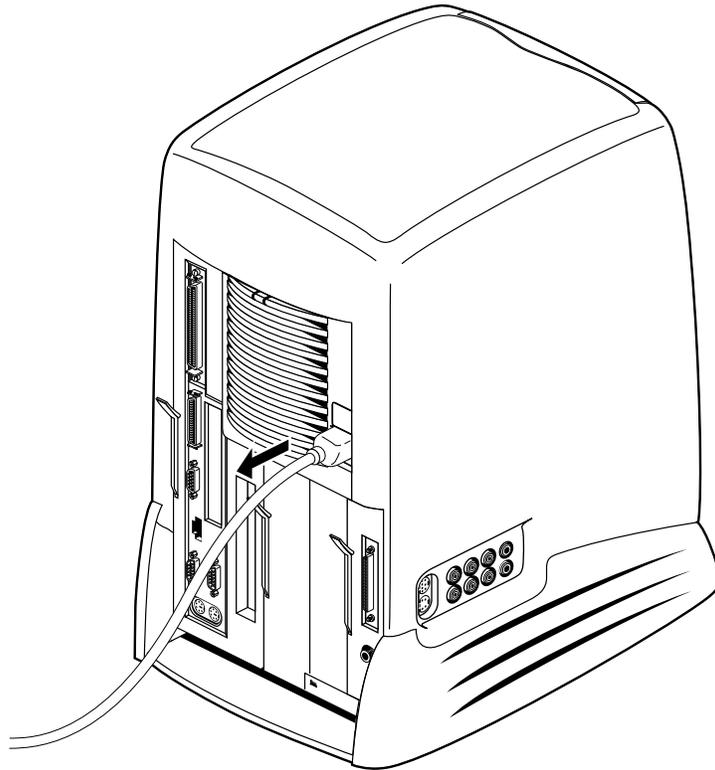

Figure 1-2 Removing the Power Cable
2. Remove the cables, including the power cable (Figure 1-2).